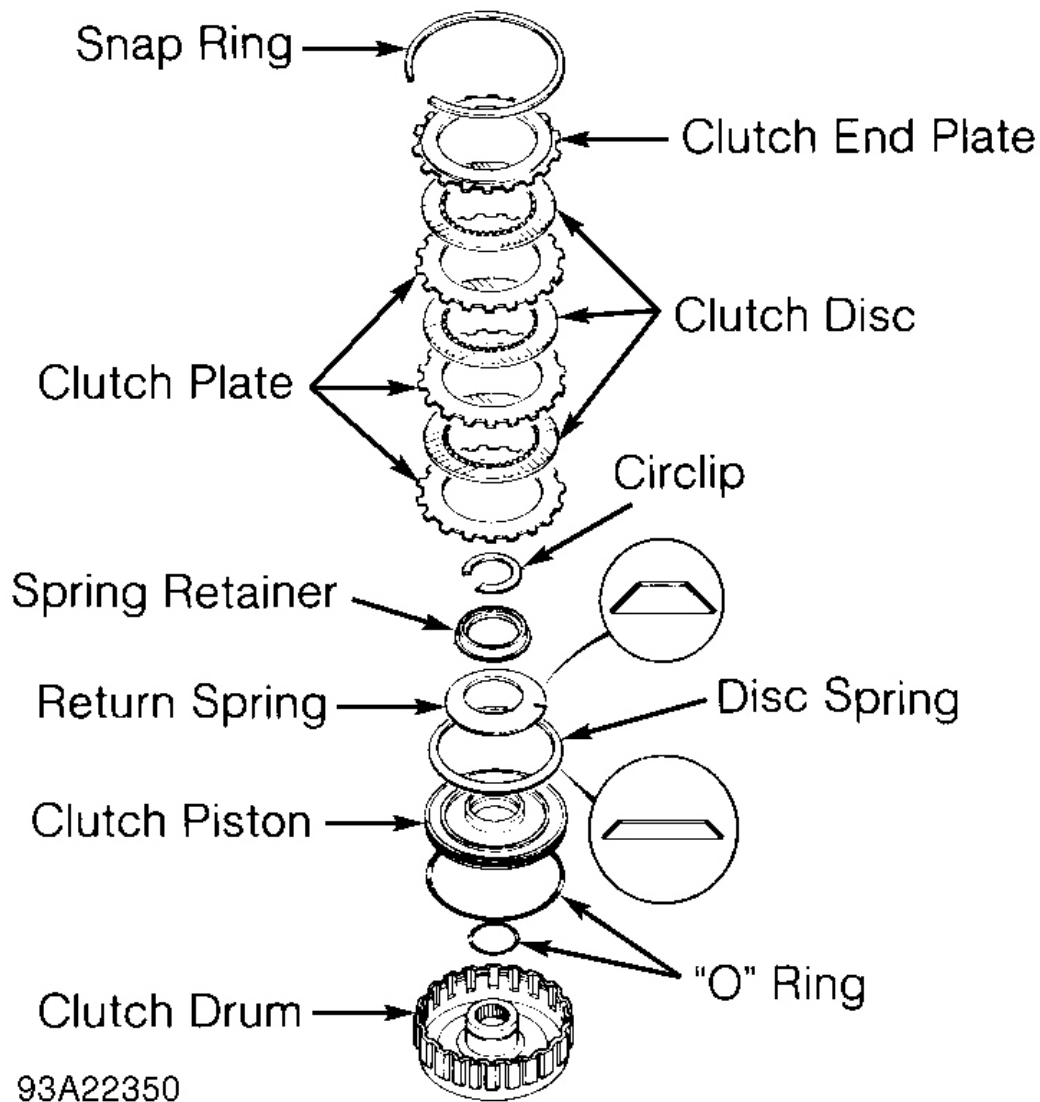

Fig. 26: Exploded View Of 1st-Hold Clutch
1. Remove snap ring, clutch end plate, clutch discs and clutch plates. See **Fig. 26 -Fig. 28** .
2. Install return spring. On 1st-hold clutch, ensure return spring is installed in correct direction. See **Fig. 26** . On all clutches, install spring retainer in clutch drum. Place circlip on spring retainer. Using spring compressor, compress return spring. Install circlip. Release and remove spring compressor.
3. On 1st-hold and 2nd clutches on 1993 models or all clutches on 1994 models, install disc spring. Ensure disc spring is installed in proper direction. See **Fig. 26 -Fig. 28** .